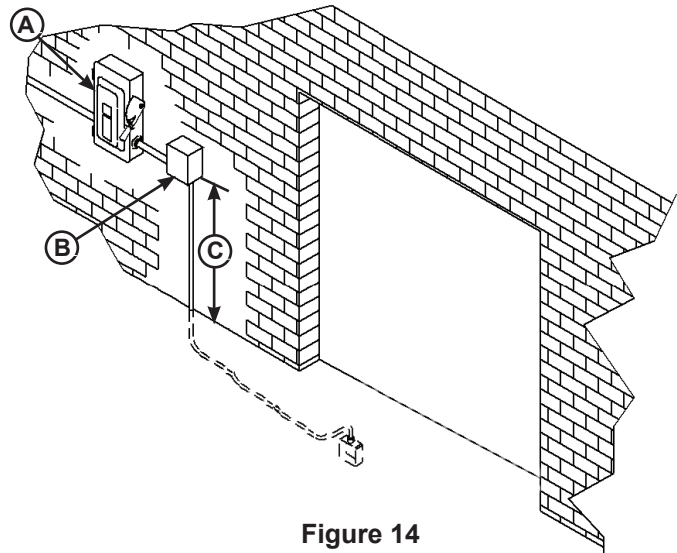

Figure 14
1. If wall-mounting, mount the push-button control panel (B) so bottom of control panel-to-dock floor distance (C) is approximately 48 in. (1219 mm). See Figure 14. If stanchion-mounting, mount control box to stanchion in desired location.
2. Install electrical disconnect panel (A) if not already installed. Disconnect panel supplied by others.